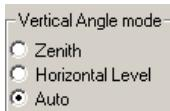

Figure 4-30. Vertical Angle field in the *Open* Window for TS Raw Data File
2. TS raw data files do not allow recording information about vertical angle mode. However, you can set it when opening a TS raw data file: on the Vertical Angle field (Figure 4-30), set the mode which was enabled for the survey in the Total Station.